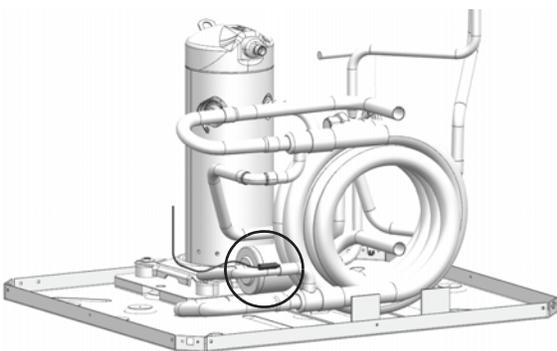

Fig. 21 — Water-Side Freeze Protection Sensor
- Evaporator freeze protection sensor, mounted between the thermal expansion device and the evaporator, monitors refrigerant temperature between the evaporator coil and thermal expansion valve. If temperature drops below or remains at freeze limit trip for 30 seconds, the controller will shut down the compressor and enter into a soft lockout condition. The default freeze limit trip is 30°F. (See Fig. 21 and 22.)
on the board. The UPM board will constantly monitor the refrigerant temperature with the sensor mounted close to the condensing water coil between the thermal expansion valve and water coil. If temperature drops below or remains at the freeze limit trip for 30 seconds, the controller will shut the compressor down and enter into a soft lockout condition. Both the status LED and the Alarm contact will be active. The LED will flash three times the code associated with this alarm condition. If this alarm occurs 2 times (or 4 if DIP switch is set to 4) within an hour the UPM board will enter into a hard lockout condition. It will constantly monitor the refrigerant temperature with the sensor mounted close to the evaporator between the thermal expansion valve and evaporator coil as shown in Fig. 21. If temperature drops below or remains at the freeze limit trip for 30 seconds, the controller will shut the compressor down and enter into a soft lockout condition. Both the status LED and the Alarm contact will be active. The LED will flash three times the code associated with this alarm condition. If this alarm occurs 2 times (or 4 if DIP switch is set to 4) within an hour the controller will enter into a hard lockout condition.